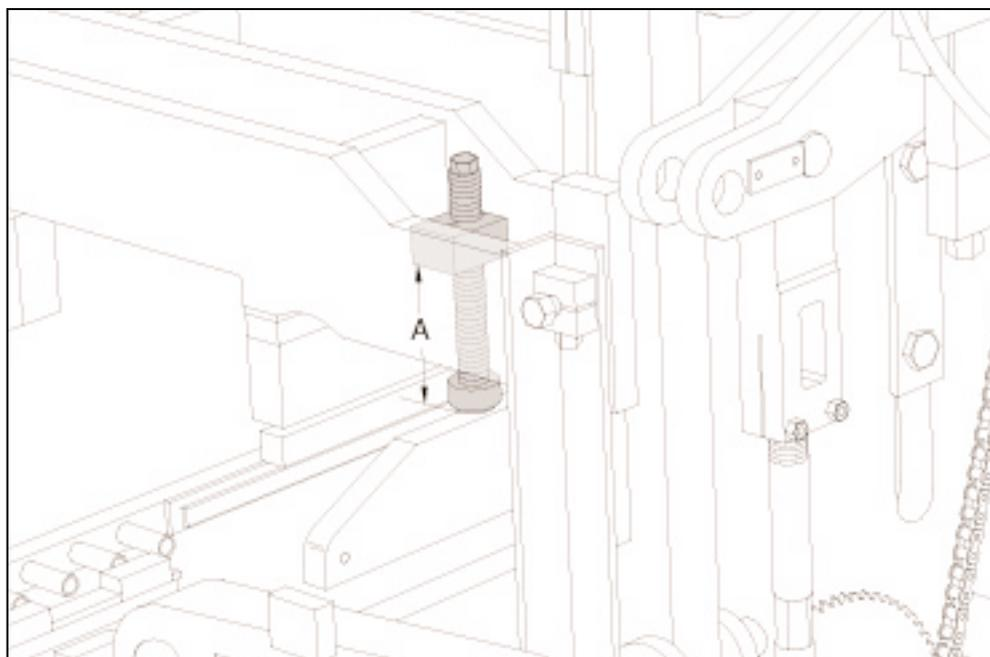

Figure 4.14 SHOCK ABSORBERS ADJUSTMENT.
4.1.7 Adjust the shock absorbers to a dimension **11 15/16" [303mm]** (represented by "A" in figure 4.14) from the bottom of the clamp blocks to the bottom of the rubber pads.